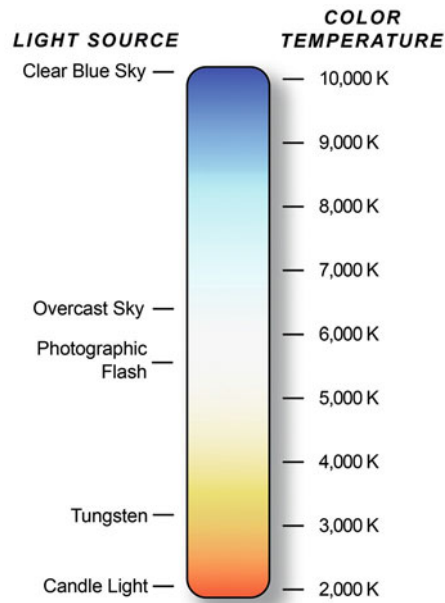

FIGURE 1.4 Color temperature of different continuous light sources.
This varying blend of spectrum components in different white light sources is called *color temperature*, and is described in Kelvin (K). Just so you know, unlike temperature measurements in degrees Celsius or Fahrenheit, Kelvin units are not described as degrees and do not use the degree symbol. Figure 1.4 shows that tungsten lamps have a color temperature of approximately 3200 K, while the overcast
daylight is approximately 6500 K and clear blue sky is around 10,000 K or 12,000 K. Also notice in Figure 1.4 that 5500K is photographic daylight. This means that 5500 K is the color temperature of most photographic strobe and electronic flash light sources. Correspondingly, 5500 K is the color temperature digital cameras are balanced for when they are set to daylight or flash.